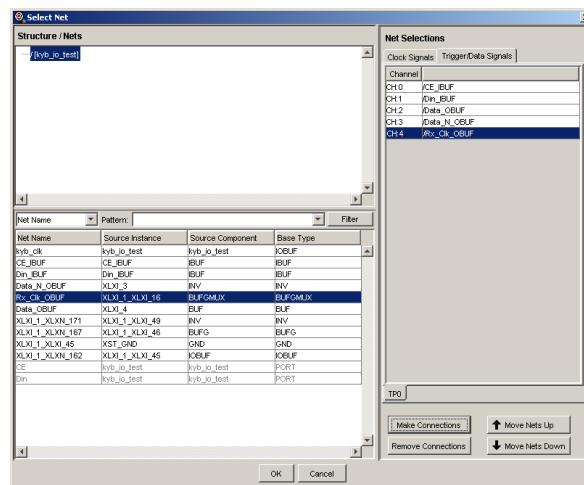

Figure 19
29. Select the “Trigger Data Signals” tab, and complete the selections as shown in Figure 19 and click on OK.